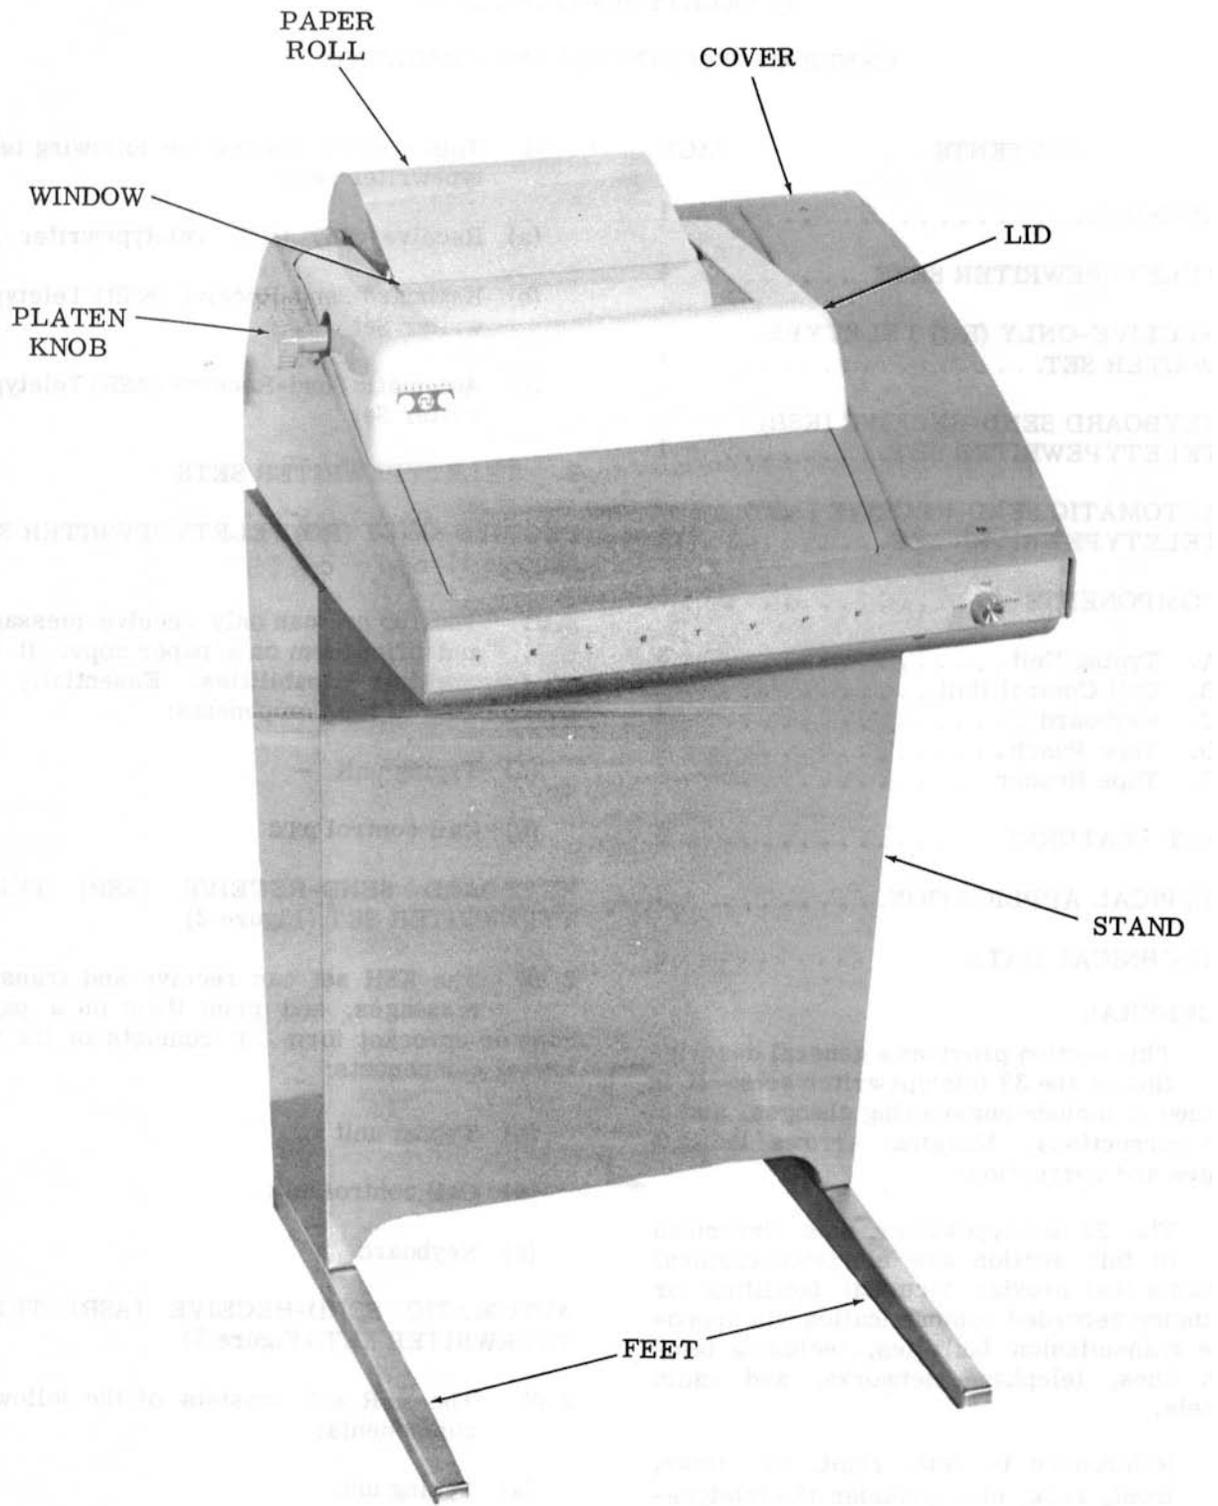

Figure 1 - Model 32 Receive-Only (RO) Teletypewriter Set
- (a) Receive-Only (RO) Teletypewriter Set
RECEIVE-ONLY (RO) TELETYPEWRITER SET (Figure 1)